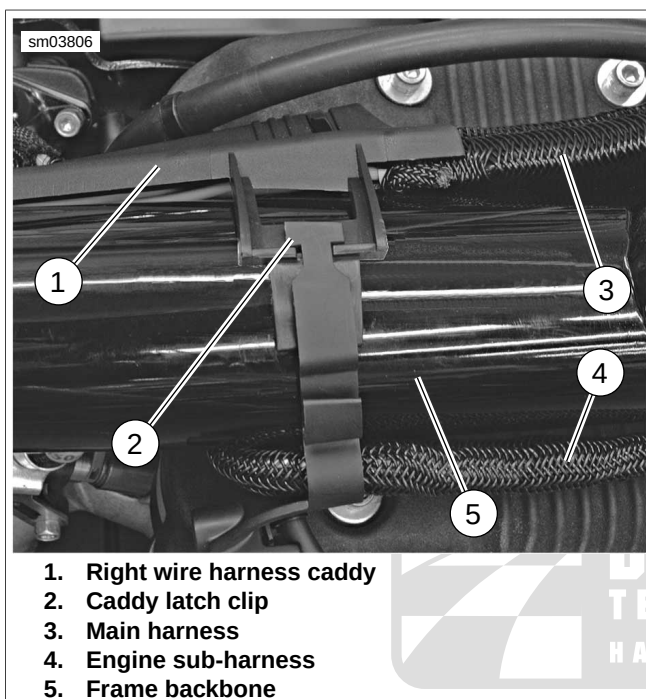

Figure 6-114. Right Wire Harness Caddy Latch Clip
6. See Figure 6-114. Unhook caddy latch clip (2) from right wire harness caddy (1).
8. See Figure 6-114. Install caddy latch clip (2) onto right wire harness caddy (1). Make sure engine sub-harness (4) is routed in loop in caddy latch clip.